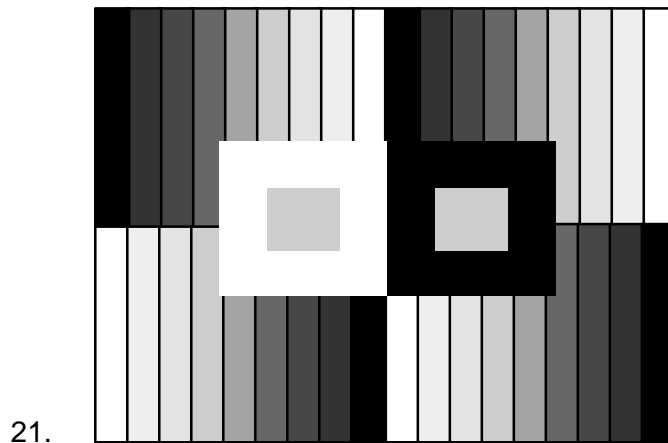

Figure 5-17. Grey/Pluge Test Pattern.
8. Use the up/down arrow keys to adjust the black level so the small, black square in the center of the larger black square is *just barely* visible (refer to Figure 5-17). Press Enter when finished.
4. Use the up/down arrow keys to adjust the Sensitivity Offset so the small, white square is just barely visible inside the larger white square (*see Figure 5-17*).
4. Observe the two or three ***brightest*** bars in each of the four sections of the test pattern (*see Figure 5-17*). If any color is too prominent in these two or three bars, adjust the Sensitivity Offset (*see below*) for that color.